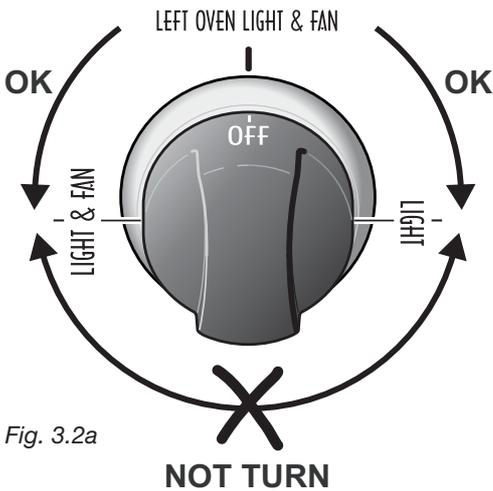

Fig. 3.2a
The oven light and the fan motor are controlled by a switch knob on the control panel (fig. 3.2a - 3.2b). To light up the oven lamp turn the knob anti-clockwise to LIGHT position.
**IMPORTANT NOTE:** during ignition of the oven burner the fan motor shall be switched off (light and fan control knob in **OFF** position - Figs. 3.2a - 3.2b).
After lighting the oven burner switch on the fan motor by turning the LIGHT & FAN control knob (fig. 3.2a - 3.2b) on LIGHT & FAN position.
With the oven burner control knob in **OFF** position turn the LIGHT & FAN control knob (fig. 3.2a - 3.2b) on LIGHT & FAN position.